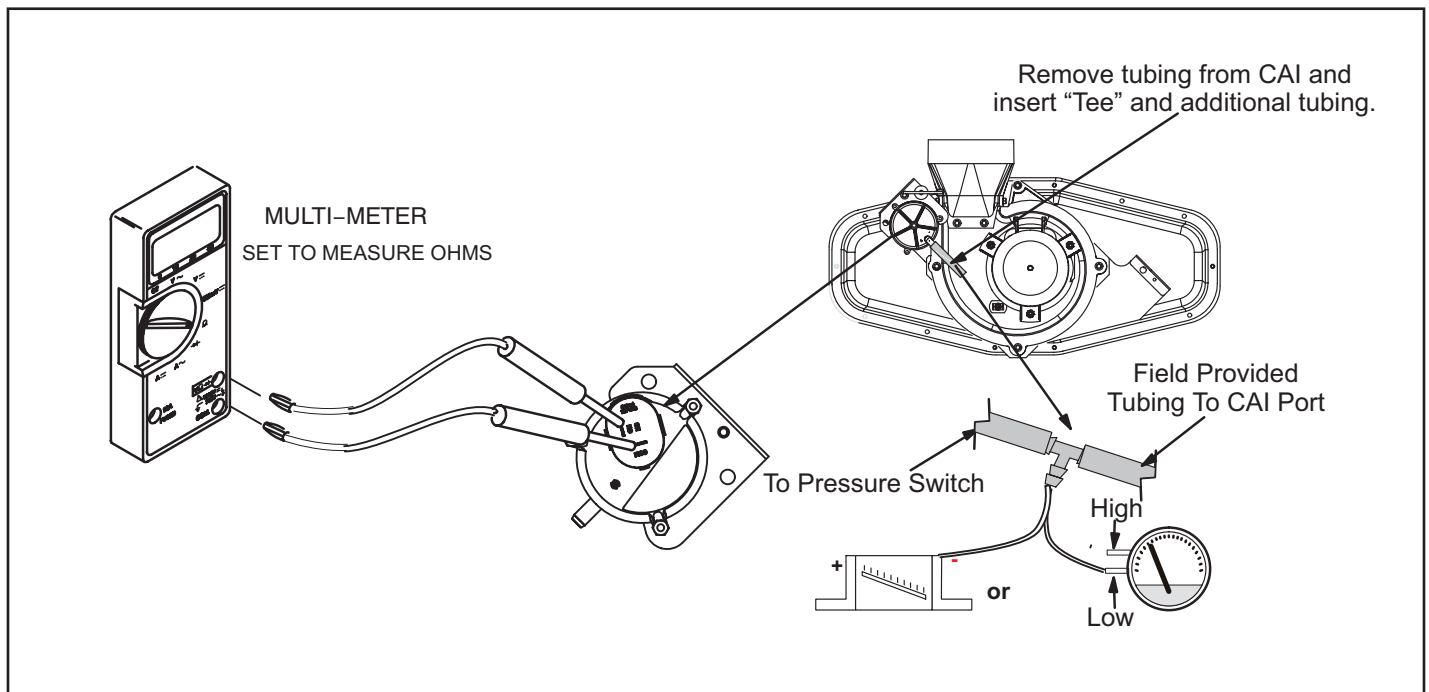

FIGURE 10
See figure 10 for measuring operating pressure and checking resistance in the pressure switch.
- 3 - Mount new motor control module to motor using two hex head bolts removed in figure 10. Torque bolts to 22 inch pounds or 1/16th clock wise turn.